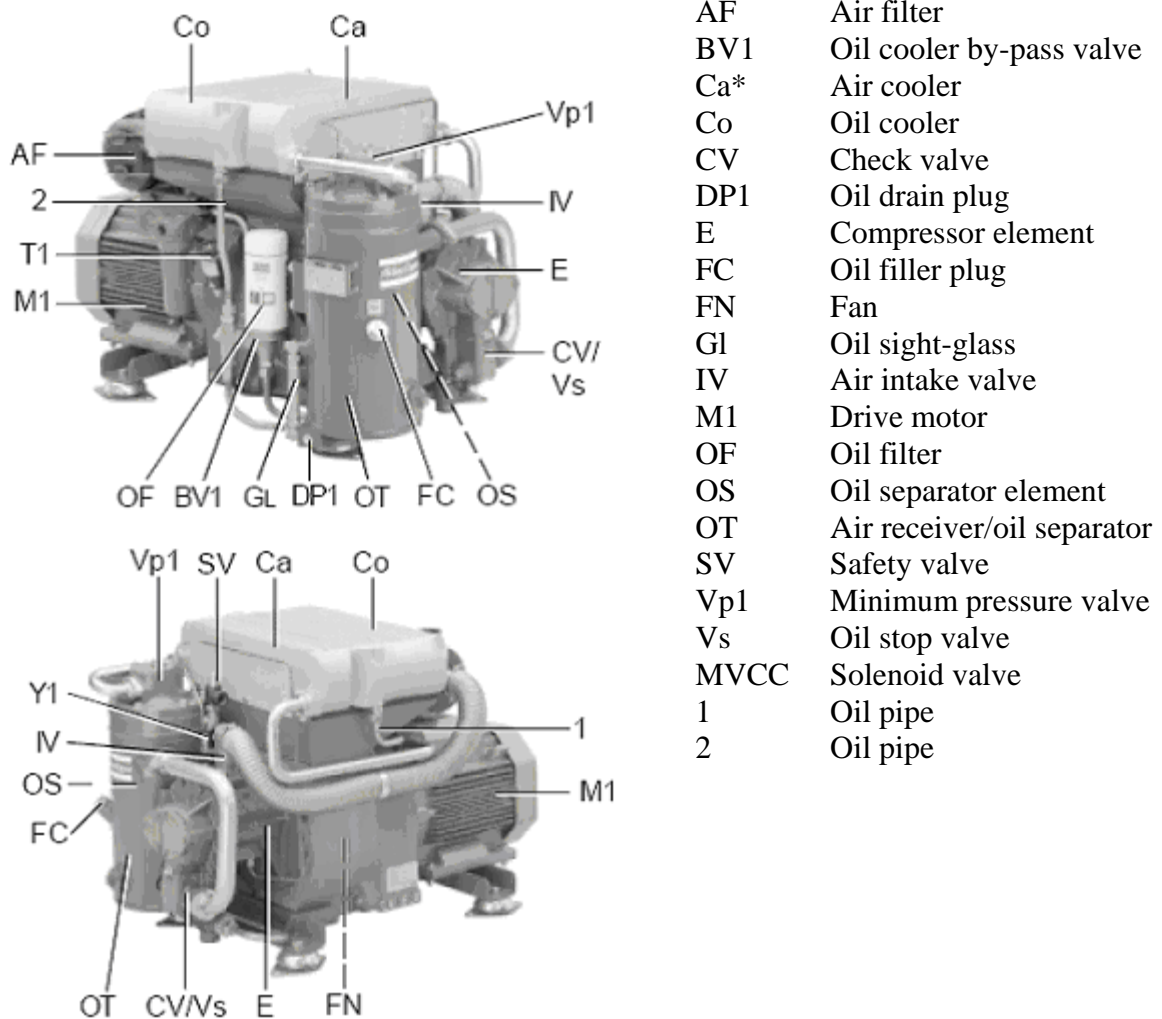

Figure 4-1 - General View of Air Compressor
Minimum pressure valve (Vp1) prevents the receiver pressure from dropping below a minimum pressure, needed for lubrication of compressor element (E). See Fig. 4-1.
Oil stop valve (Vs) prevents the compressor element from flooding with oil when the compressor is stopped. The valve is opened by element outlet pressure when the compressor is started. See Fig. 4-1.
When the oil temperature is below 50 degrees Celsius, start the compressor. Measure the temperature of pipe 1, Figure 4-1.